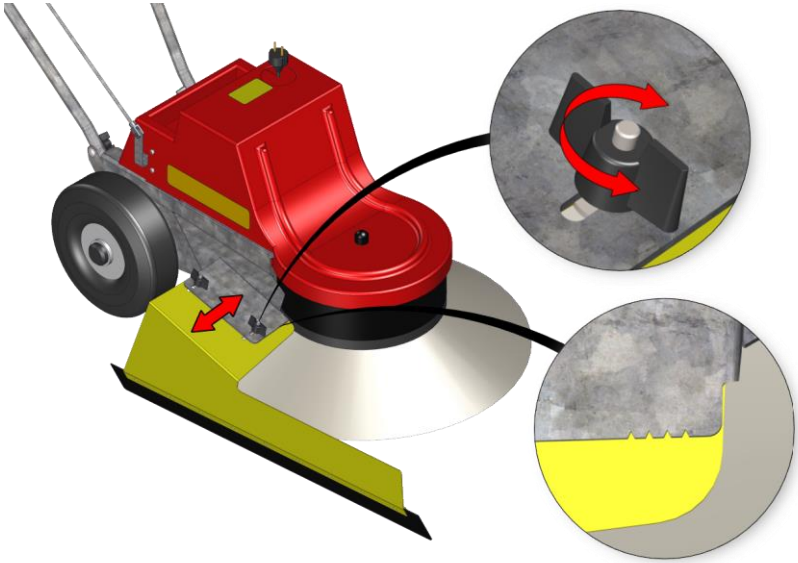

Fig. 59: swath plate adjustment
1. Slightly loosen the wing nuts in accordance with Fig. 59.